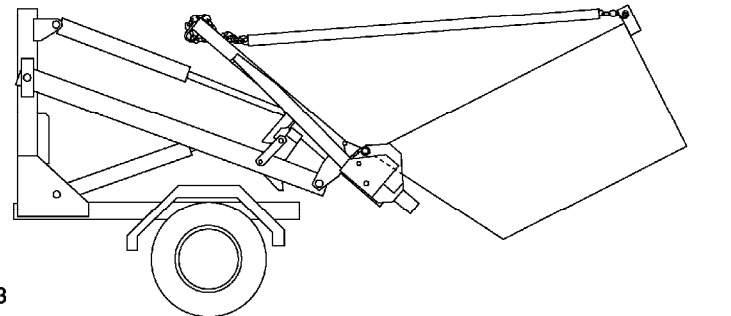

Figure 3
- Tilt the forks all the way up and lower the mast completely down until full contact is made with all rest pads (See Figure 3).